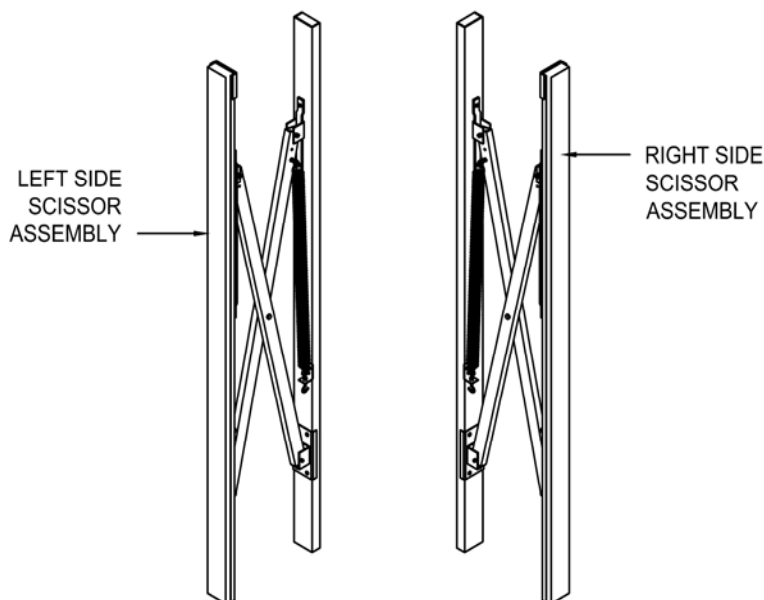

FIG. 2
a. Measure and mark center of dock door opening (Figure 2).
3. Determine left and right vertical frames: The vertical frame should be mounted in a manner which allows the spring assembly to be positioned at the top inside edge "Close to the door opening" (fig. 2).